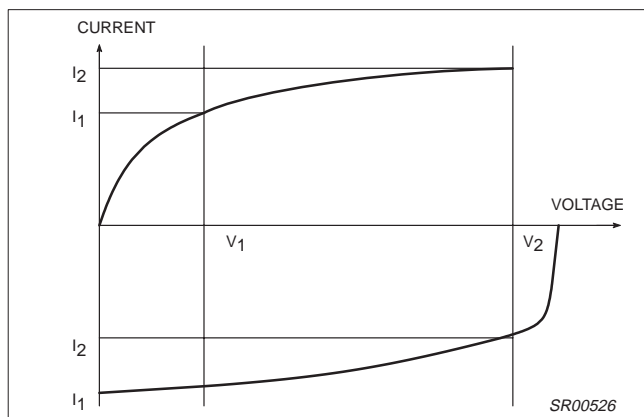

Figure 3. Relative Output Current Variation
- The relative output current variation is defined thus: $\frac{\Delta I_{OUT}}{I_{OUT}} = 2 \cdot \frac{(I_2 - I_1)}{|(I_2 + I_1)|}$; with $V_1 = 0.3V$, $V_2 = V_{CCCP} - 0.3V$ (see Figure 3).